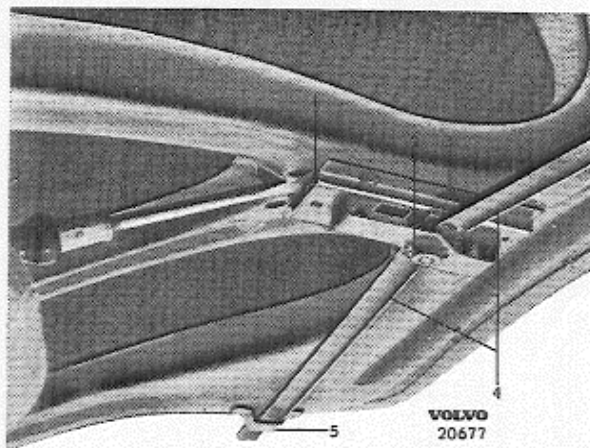

Fig. 25. Removing the lock cylinder
If an even harder contact surface between the bottom and sides is desired, against the rubber weatherstrip, then the outer ends of the lock links (4, Fig. 25) and the guides (5) are driven towards the edge slightly with a brass hammer.
The locking device is attached to the inner plate of the lid by means of four screws. The handle is retained by a cotter pin (2). The lock cylinder is held in place by a means of a screw (1) which is accessible with a screwdriver from the underside of the lid. See Fig. 25.